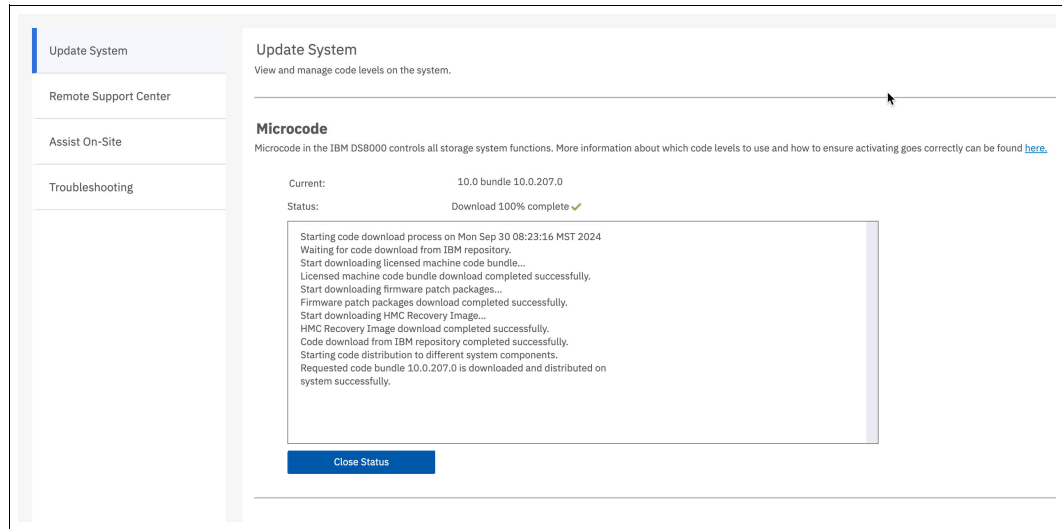

Figure 11-8 Microcode download complete message
3. The user can monitor the process until completion. After the download completes, click **Close Status**, as shown in Figure 11-8 on page 396.